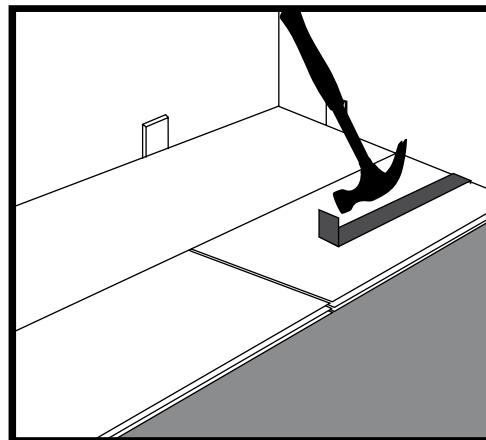

Figure 6
- Use a hammer and pull bar to secure final piece in the second row allowing a 1/4" expansion space at the end of the row. (See figure 6.)